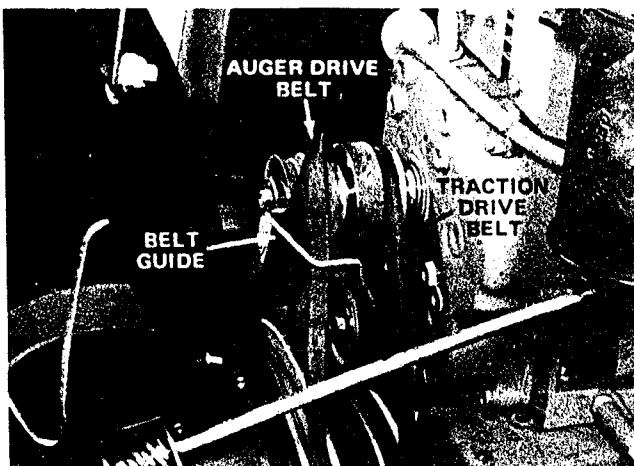

Figure 34
4. Remove the defective belt or belts; then install new belt(s). Make sure auger drive belt is installed to inside of the belt guide (Fig. 34). Traction drive belt must be installed against inside of the idler pulley (Fig. 34).